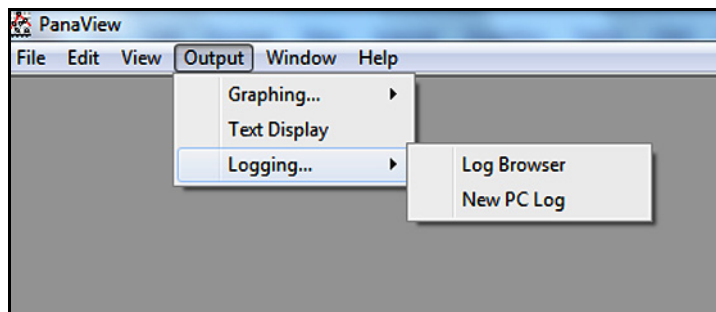

Figure 78: Selections in the Logging Option
1. Open the "Output" menu (see *Figure 60 on page 51*), and click "Logging" option to open the window shown in *Figure 78* below.